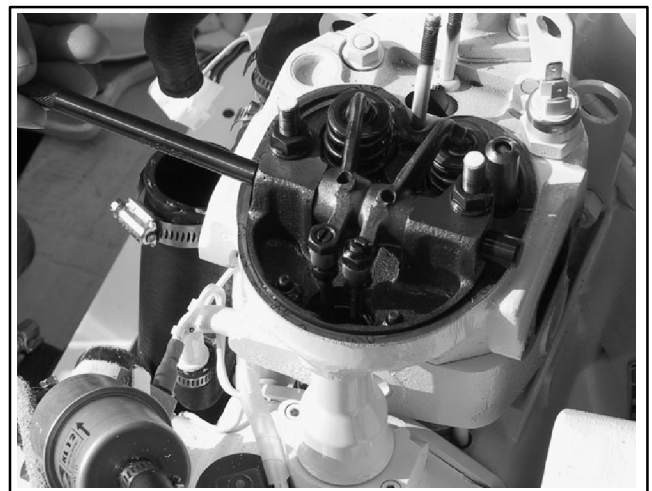

Figure 10-32 Rocker Arms
- Using a chisel and hammer, drive out the rocker arm shaft. See Figure 10-32.